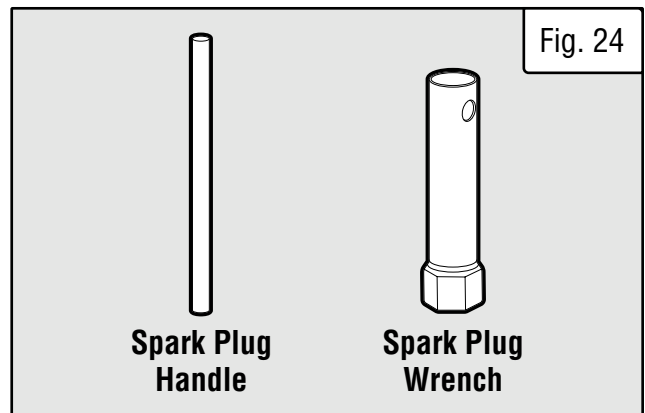

Fig. 24
2. Use included spark plug wrench to unscrew spark plug from the engine. Remove the spark plug from the engine. (Fig. 24)